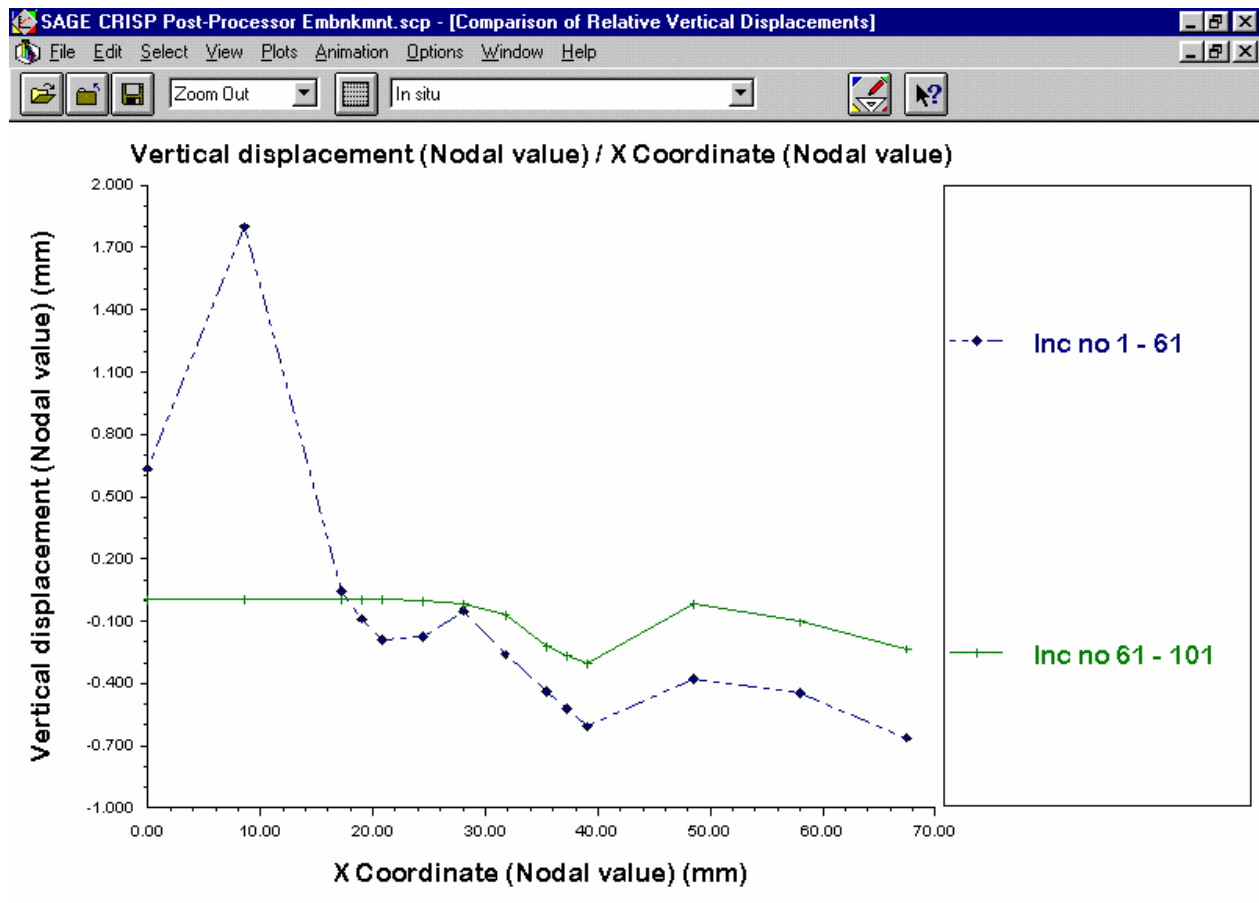

Figure 6-39: Comparison Of Relative Vertical Displacements
- Step 10** Click on **OK** to exit, once you have finished. You should see a graph similar to that displayed in Figure 6-39.
- Step 11** The appearance of the graph can be altered in the in the Graph Configuration dialogue box. This is accessed via the Options menu, or by double-clicking on the graph itself. The options used in Figure 6-39 were 7 X axis divisions with minima and maxima of 0 and 70 respectively, 10 Y axis divisions with minima and maxima of -1.0 and 0. The legend, axis labels, graph title and grid lines can also be changed in this dialogue box.